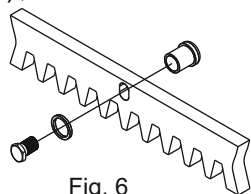

Fig. 6
**5.2.** Fix to each gear rack element the support pawls using the appropriate lock screws, taking care to place them in the upper part of the hole (Fig. 6);